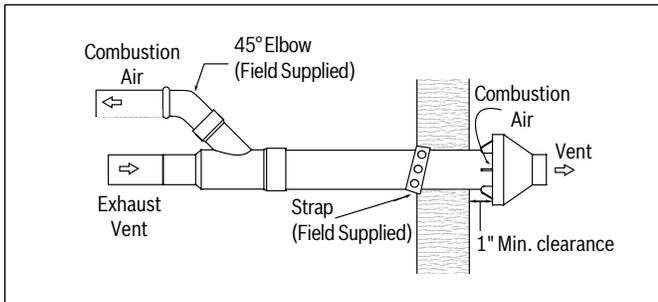

Figure 36
4. Install cemented Y concentric fitting and pipe assembly through structure's hole (Figure 36). NOTE: Do not allow insulation or other materials to accumulate inside pipe assembly when installing through hole.
5. Secure the assembly to the structure as shown in Figure 36 using field supplied metal strapping or equivalent support material.